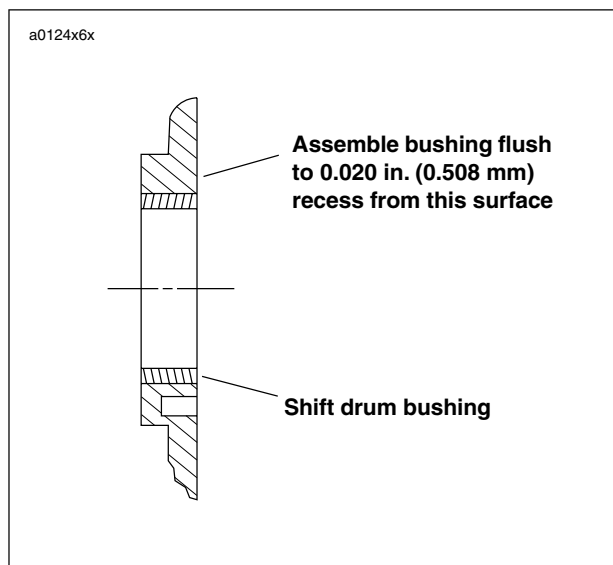

Figure 6-48. Shift Drum Bushing Assembly
2. See Figure 6-48. Lay bushing squarely over bore. Locate socket or pipe that is slightly larger than diameter of bushing. Place socket or pipe on bushing and press into bore until bushing is flush with or 0.020 in. (0.508 mm) below inside surface. If using a pressing tool larger than diameter of bushing, the pressing tool will bottom against crankcase when bushing is flush with top surface.